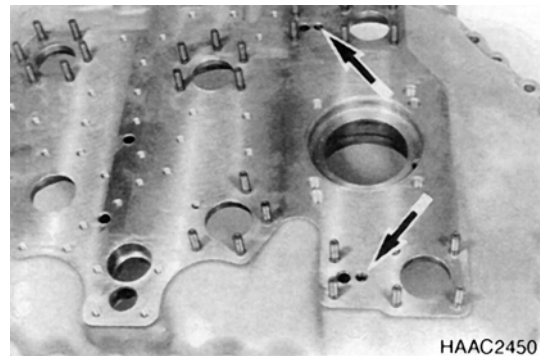

Figure 166
15. Insert set screws (2x) into the housing bores (Figure 166).